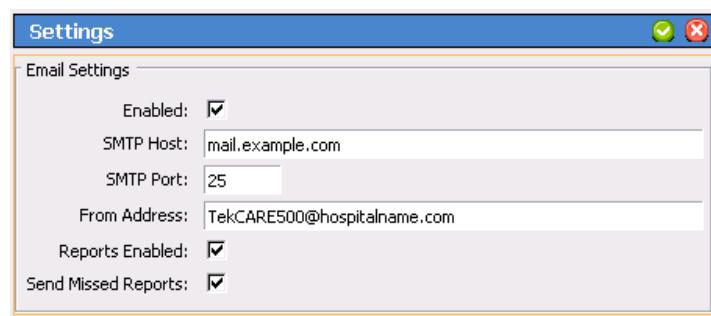

Figure 37: Email Output Settings
2. Click on **Edit** in the **Settings** field (shown in Figure 37) to unlock the field for editing.